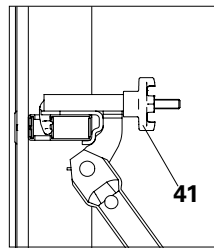

Fig. A6.04a
1. Attach Push-Pull Prop or Kicker with bolt and cotter pin to the Brace Connector TRIO. (Fig. A6.04a)